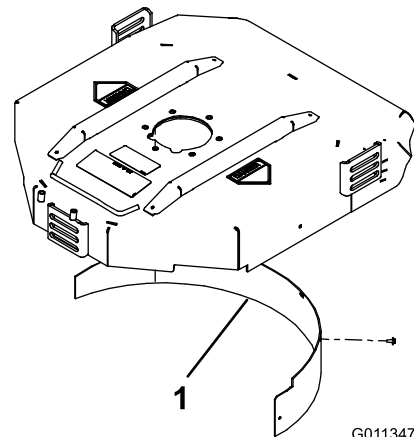

Figure 6
2. Install the mulching baffle in the rear opening and secure it with 5 flange head bolts (Figure 6).